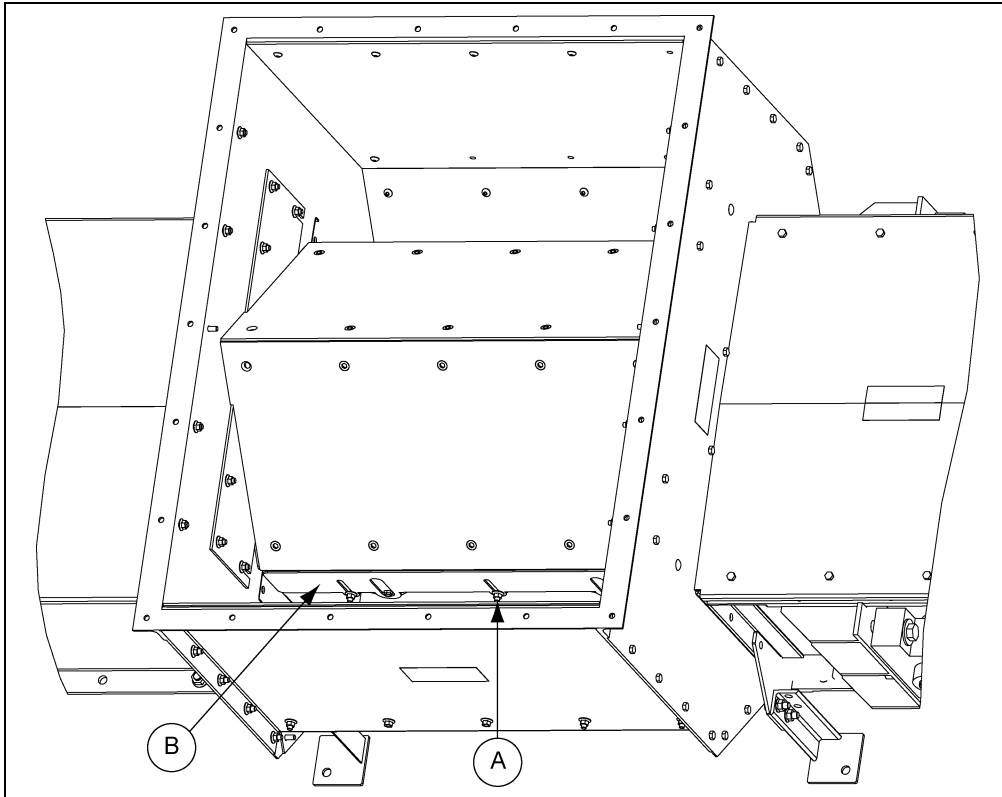

Figure 10E 20 Inch Tall Bypass Inlet with Baffles
The bypass baffle (B) has an adjustment of 2-1/2 inch to help control the amount of grain flow into the conveyor. (See Figure 10E.)
NOTE: Use flange nuts (A), located at alternating slot locations, to adjust the baffle (B) on 20 inch tall bypass inlets with baffles. (See Figure 10E.) Adjust baffle to obtain uniform opening along entire length of bypass inlet.